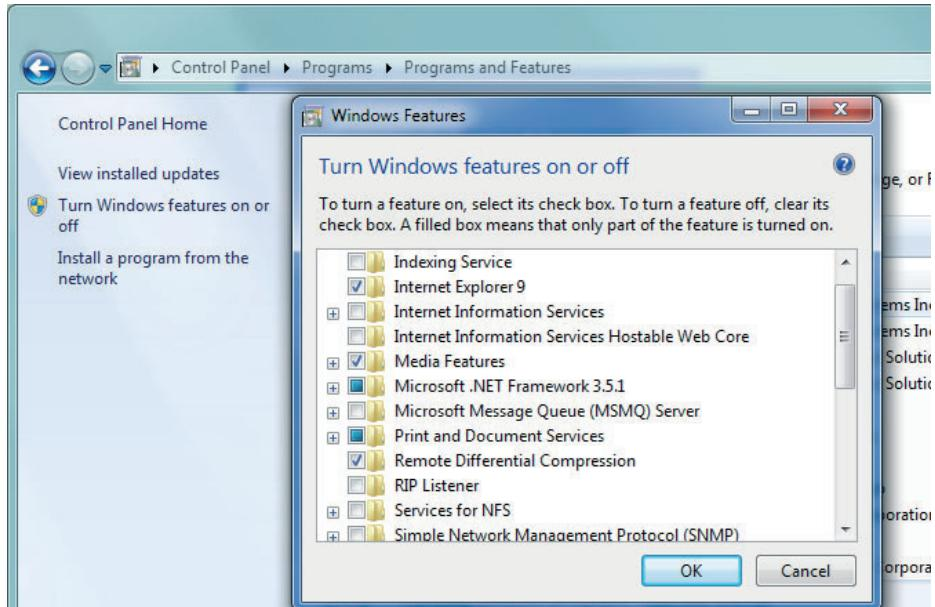

Figure 2-12
1. Access to the Control Panel - Programs and Features - Turn Windows Features on or off. Please check whether the .NET Framework 3.5.1 has been installed. If it not installed, check "Continue". See Figure 2-12: